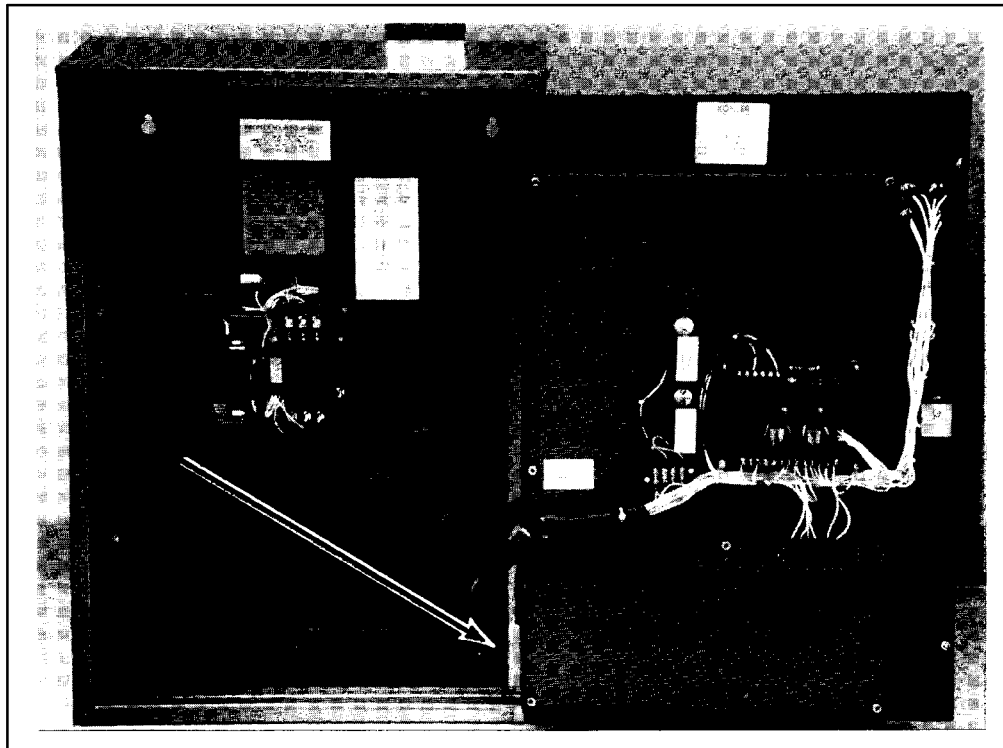

Figure 8. In-Line Disconnect Plug
13. Reconnect the contactor control in-line disconnect plugs. See Figure 8.